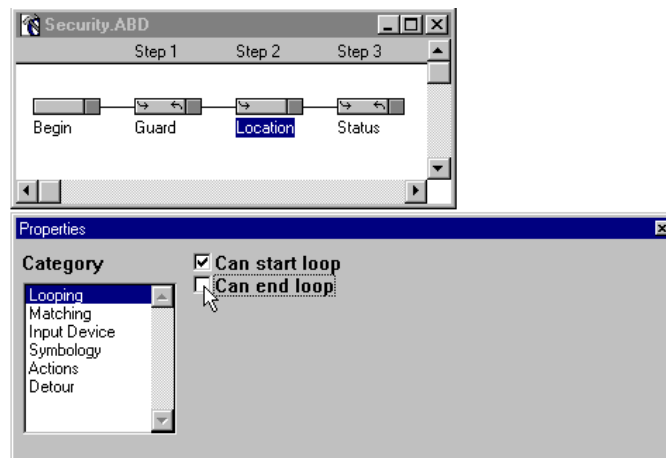

Figure 3-33 “Location” Handler - Looping
29. Click the **Can end loop** check box to deselect the option (Figure 3-33). (A checkmark should not appear in the box.)